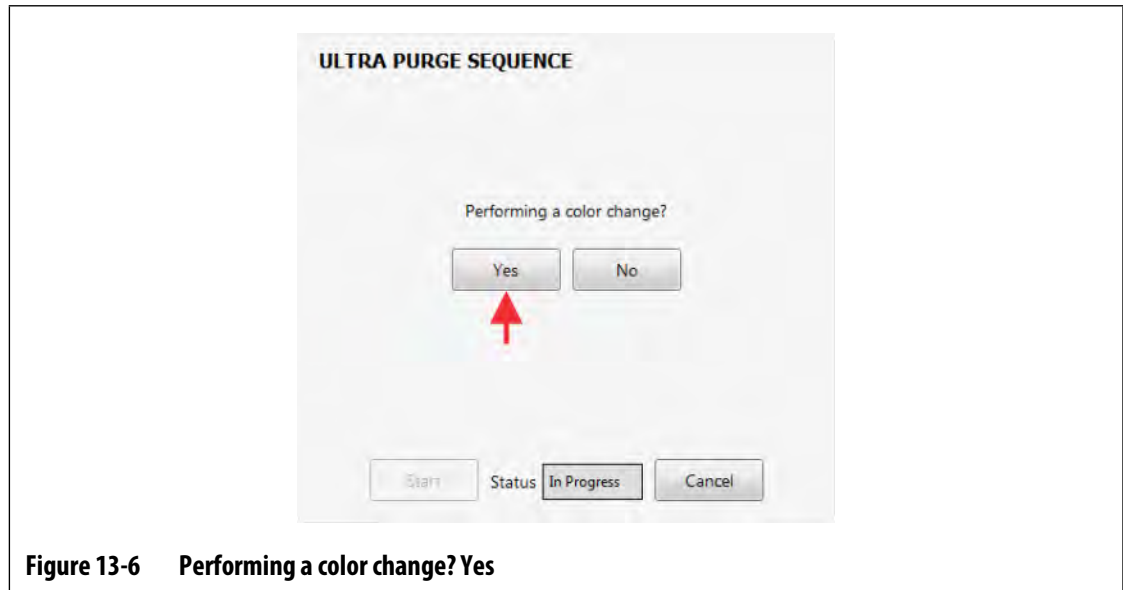

Figure 13-6 Performing a color change? Yes
- When asked if you are performing a color change, touch the **Yes** button (refer to Figure 13-6).